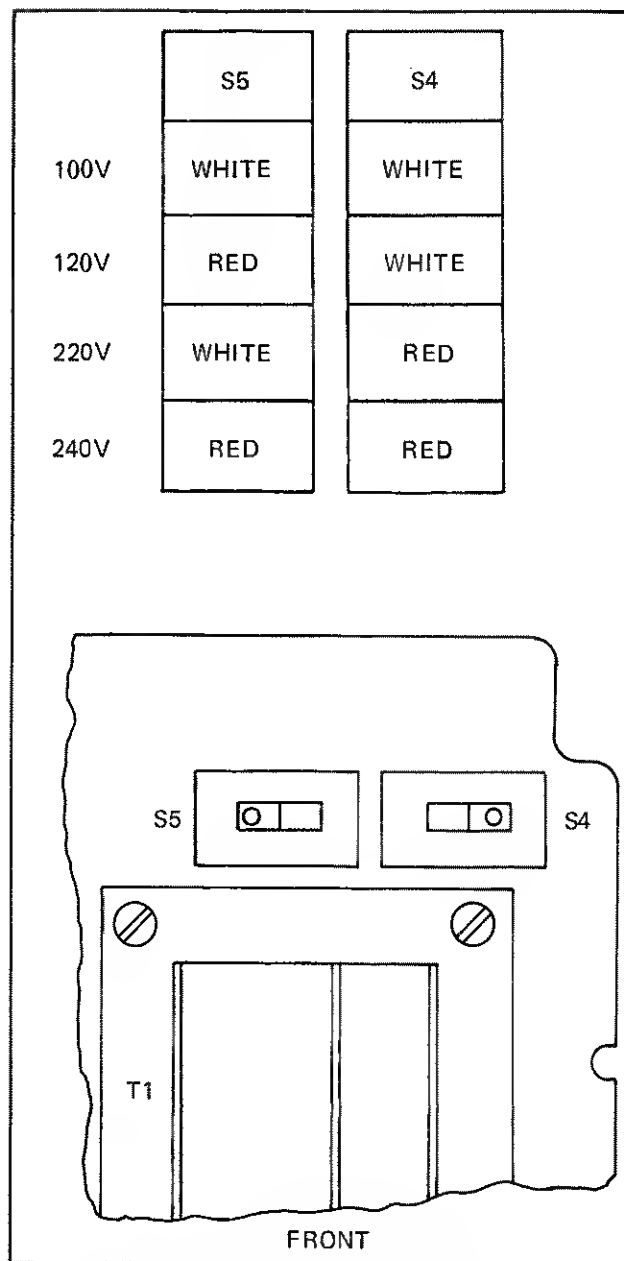
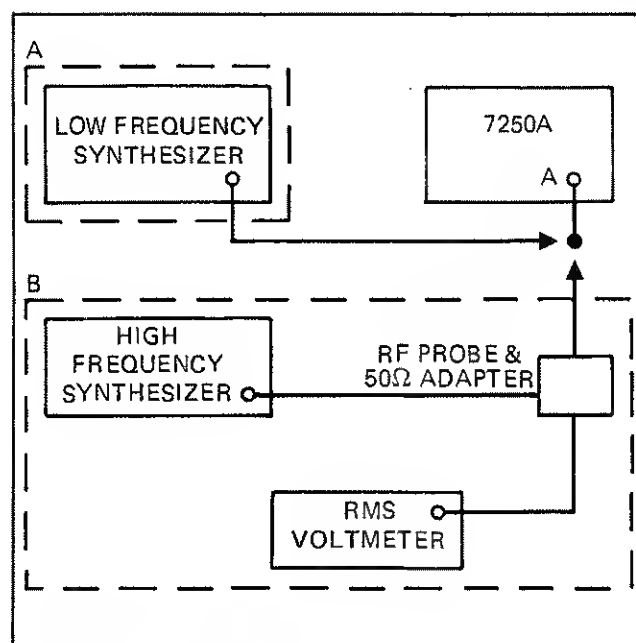

Figure 4-2. Line Voltage Selection
Figure 4-3. Channel A Sensitivity Test Connections
4-12. Input line power voltage is selected by positioning the two switches in the right rear corner of the Main PCB. Each switch (S4 and S5) shows a position identifying red or white dot. Line voltage settings identified by dot color are presented in Figure 4-2. Factory line voltage settings are identified on the instrument's rear panel; one of four (4) white dots will be darkened to signify 100, 120, 220 or 240V selection.
2. Connect the Low Frequency Synthesizer and the 7250A as illustrated in Figure 4-3 (A).
6. Repeat steps (4) and (5), this time at a setting of 100 kHz.
7. Set the 7250A RESOLUTION to 1 Hz, and repeat steps (4) and (5) at a frequency of 1 MHz.
9. Connect the High Frequency Synthesizer, 7250A and RMS Voltmeter with RF Probe and 50Ω Adapter as illustrated in Figure 4-2 (B).
12. Repeat steps (10) and (11) at a frequency of 80 MHz. The display should now remain stable through 15 mV rms.